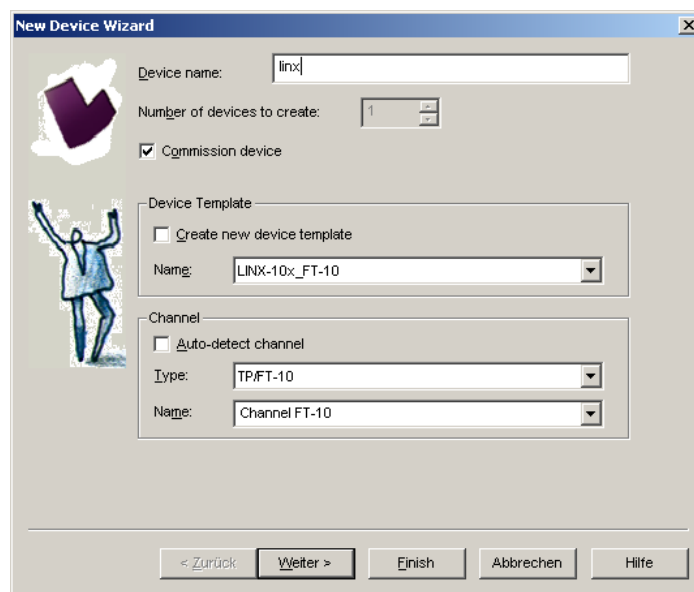

Figure 95: Create a new device in the drawing.
1. In your LonMaker drawing, drag a device stencil into the drawing. Enter an appropriate name as shown in Figure 95.